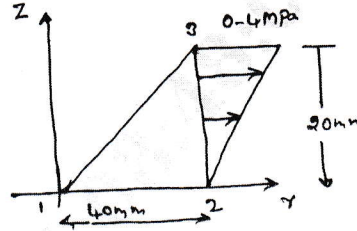

Fig Q9(b)
b. Evaluate nodes forces used to replace the linearly varying surface traction as in Fig. Q9(b)